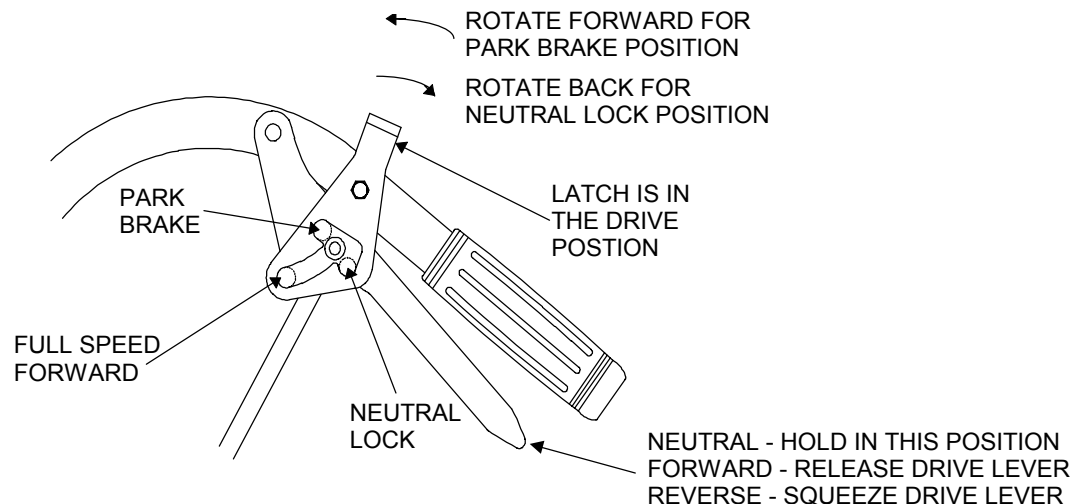

FIG. 12
- 4.1.3 Neutral Lock/Parking Brake Latch: Located directly above the drive levers. The purpose of these latches is to allow the operator to lock the drive levers in a "neutral" position where neither the wheel drive belts nor the brakes engage, or in a "park brake" position where the wheel drive belts are not engaged and the park brake is engaged. To lock the drive levers in "neutral", squeeze the drive levers back, place thumbs on the upper portion of the neutral lock/park brake latches and move them to the rear. Release drive levers. To lock the levers in "park brake", squeeze the drive levers back, place thumb on the upper portion of the neutral lock/park brake latches and move them ahead. Release drive levers (See Figure 12).
- 4.3.4 Drive Lever/Neutral Lock/Park Brake Latch Operation: To lock the drive levers in neutral, squeeze the drive levers back to the "neutral" position. Place thumbs on the upper portion of the neutral lock/park brake latches and move them to the rear. Release drive levers (See Figure 12).
To lock the drive levers in "park brake", squeeze the drive levers back to brake position. Place thumbs on the upper portion of the neutral lock/park brake latches and move them to the front. Release drive levers. (See Figure 12)